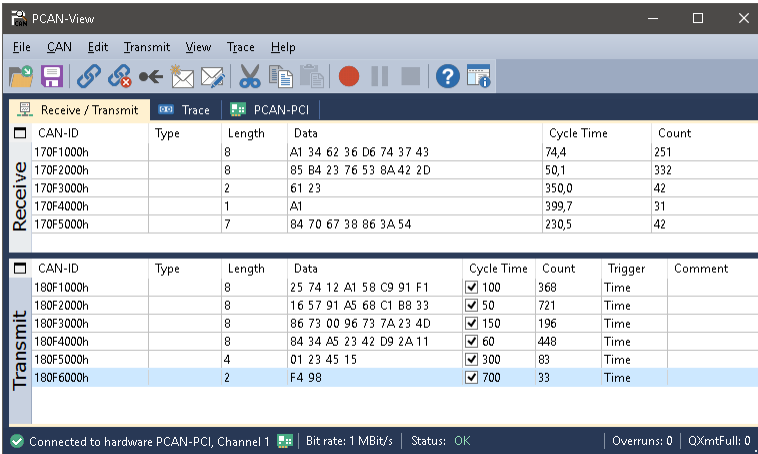

Figure 11: Receive/Transmit Tab
6. Confirm the settings in the dialog box with **OK**. The main window of PCAN-View appears (see Figure 11).